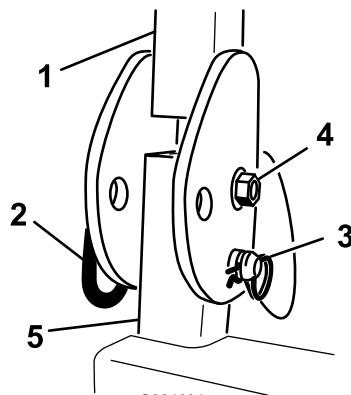

Figure 14
11. Position the ROPS assembly onto the ROPS posts. Install the bolt, nut, hair pin cotter and pin securing each ROPS assembly to the ROPS posts (Figure 14).